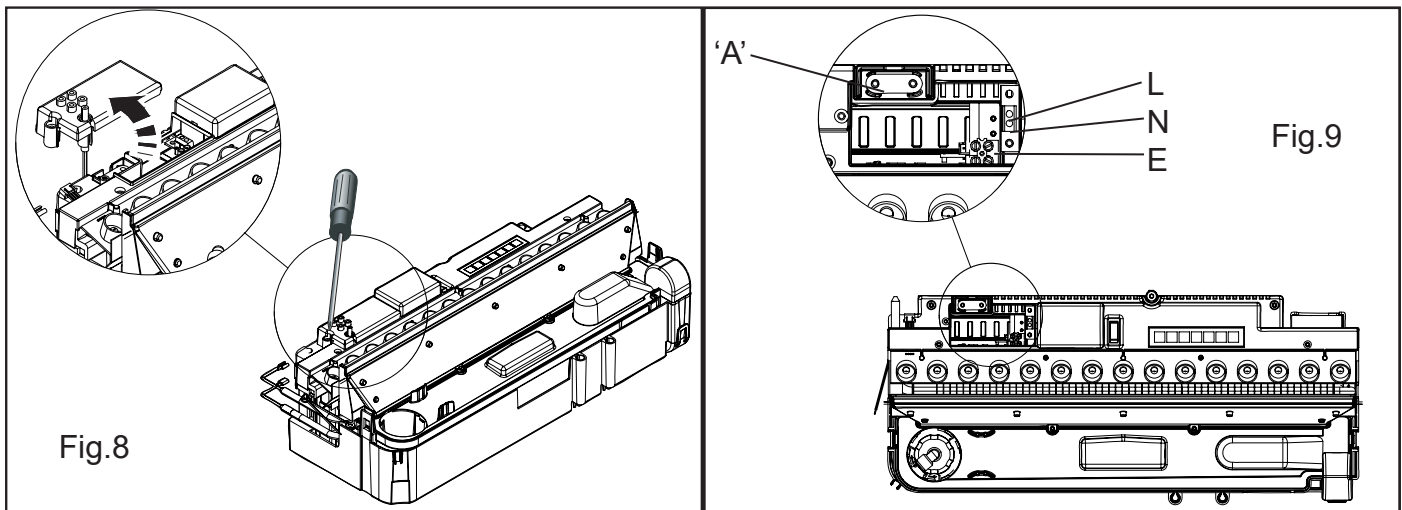

Fig.9
5. Unscrew the cable clamp (Fig 9 'A') and remove the supply cord.